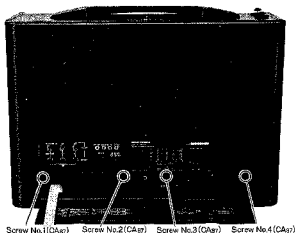
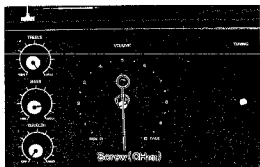

Fig. 8
Fig. 11
5. Remove the one (1) chassis screw in fig. 11.
6. Remove eight (8) knobs from cabinet.
8. Remove the four (4) screws (nos. 1~4) for the cabinet back cover, as shown in fig. 8.